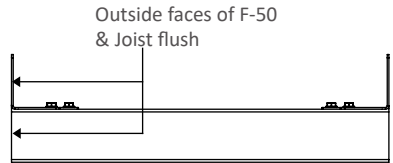

Fig. 105
4. Insert the two cut Joist assemblies into openings in inside face of U-Rim between the two mounted Front Post Blocking. As shown in Fig. 105.